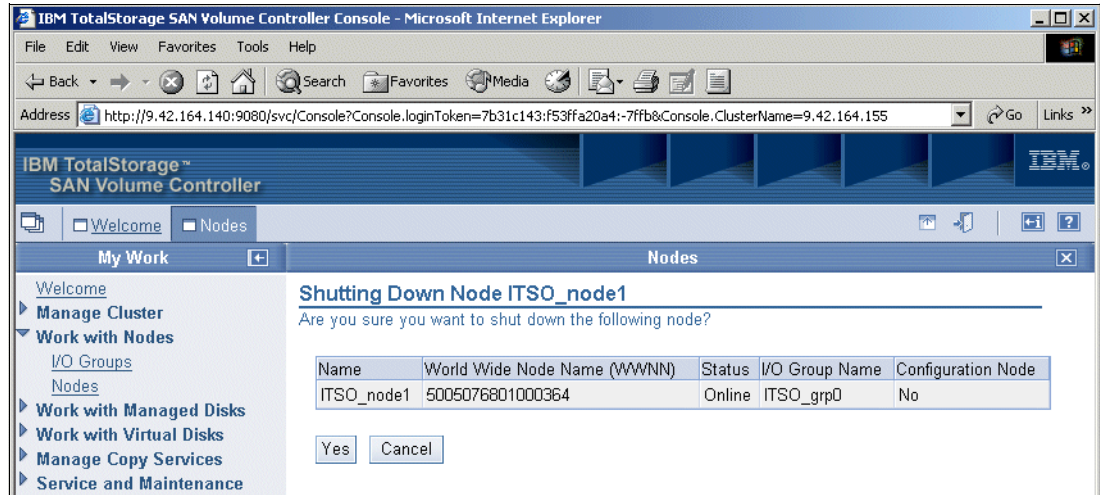

Figure 9-25 Shutting down a node
2. On the confirmation panel (Figure 9-25) that appears next, select **Yes** to continue with the shutdown process.